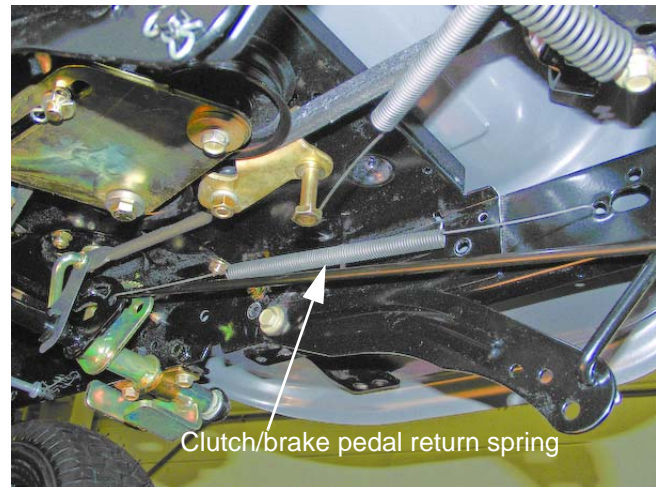

Figure 5.23
3. Remove the clutch/brake pedal return spring. See Figure 5.23.